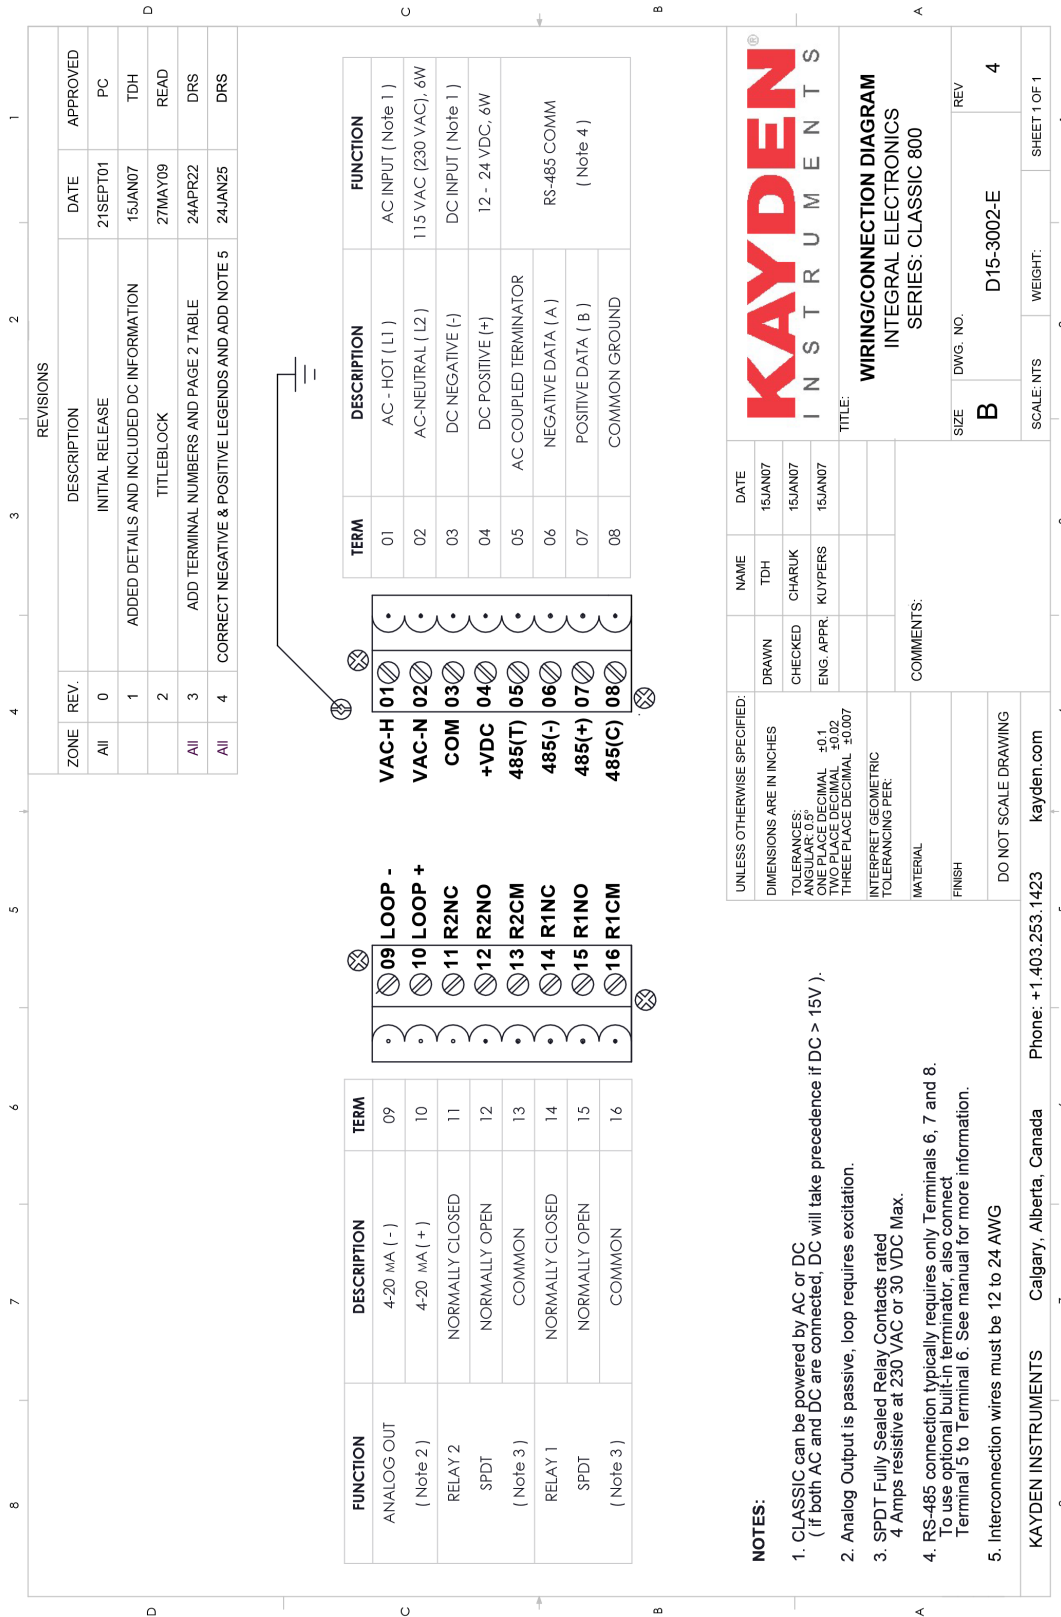

Figure 15 - CLASSIC 800 Electronics Module Terminal Wiring Diagram
- For DC Power, connect the positive voltage to +VDC and the common or negative to COM. (see Figure 15 & 16)
- The CLASSIC 800 features two (2) fully sealed independent relays, which may be wired for Normally Closed (NC) or Normally Open (NO) operation. Relay 1/Relay 2 are connected as shown in Figure 15.
Notes: For more information see Figures 15 & 16.